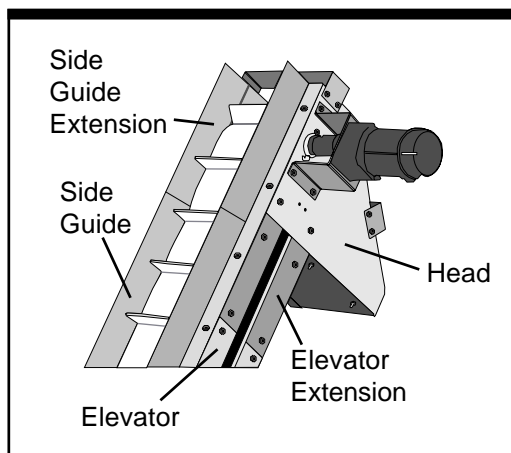

Figure 3-3. Elevator Extension
11	Figure 3-3. Elevator Extension
Step 2—Remove Head. Remove the bolts which secure the side guide to the head section. Then remove the two bolts on each side of the prefeeder head which secure the head section to the elevator and remove the head. See *Figure 3-3* for part description.